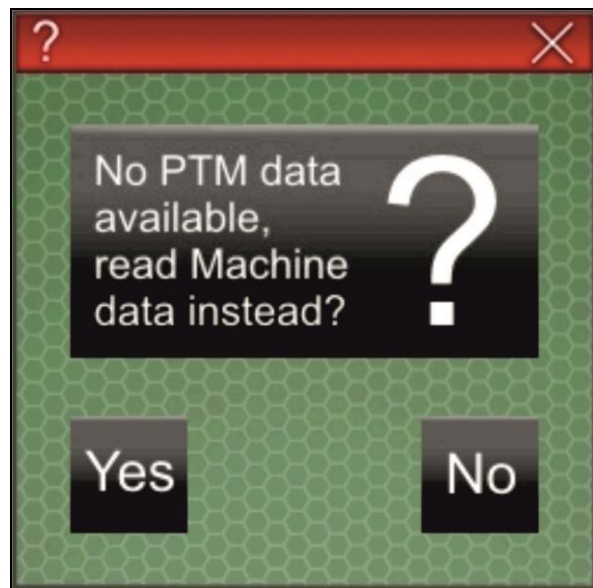

Fig. 173
6. If no data produced at the PC is available for being imported (Fig. 173), press